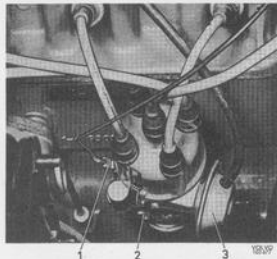

Fig. 3-96. Distributor B 20 B fitted
The distributor, Figs. 3-96 and 3-97, is fitted on the left-hand side of the engine and is driven from the camshaft. The adjustment of the distributor in relation to engine speed is regulated by a centrifugal governor fitted under the breaker plate. The adjustment in relation to loading is controlled by a vacuum regulator.
2. Remove the primary lead from the primary connection (1, Fig. 3-96).
5. Slacken the screw (2, Fig. 3-96) and pull up the distributor.